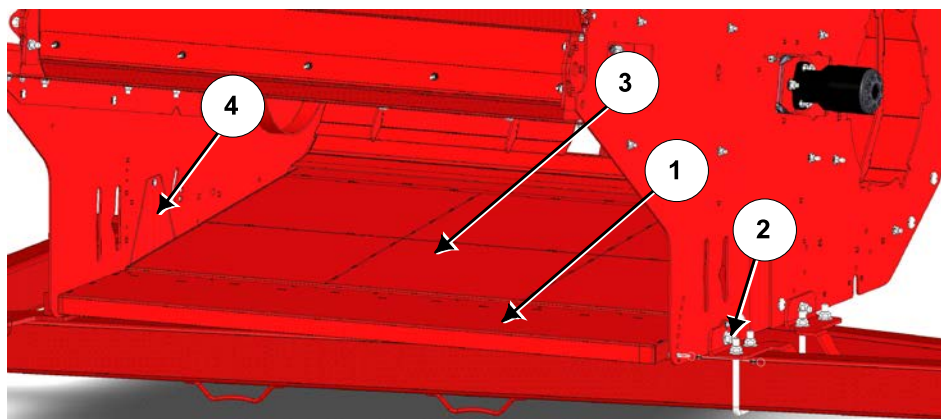

Figure 3: Remove Loft Deflector, Discharge Pan and Cutout Covers
3. If the BP 661 unit has a discharge pan (3) installed (see *Figure 3*):
- a. Remove the loft deflector (1) by removing the fasteners.
- Re-install the fastener (2) that holds the tub wall to the front bracket.
- b. Remove the discharge pan (3) by removing the fasteners.
- c. Remove the front and back cutout covers (4) by removing the fasteners.